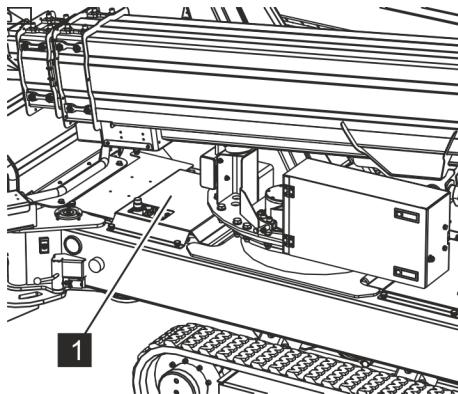

Fig. 191: Cover
2. ➔ Unscrew the cover (Fig. 191/1).